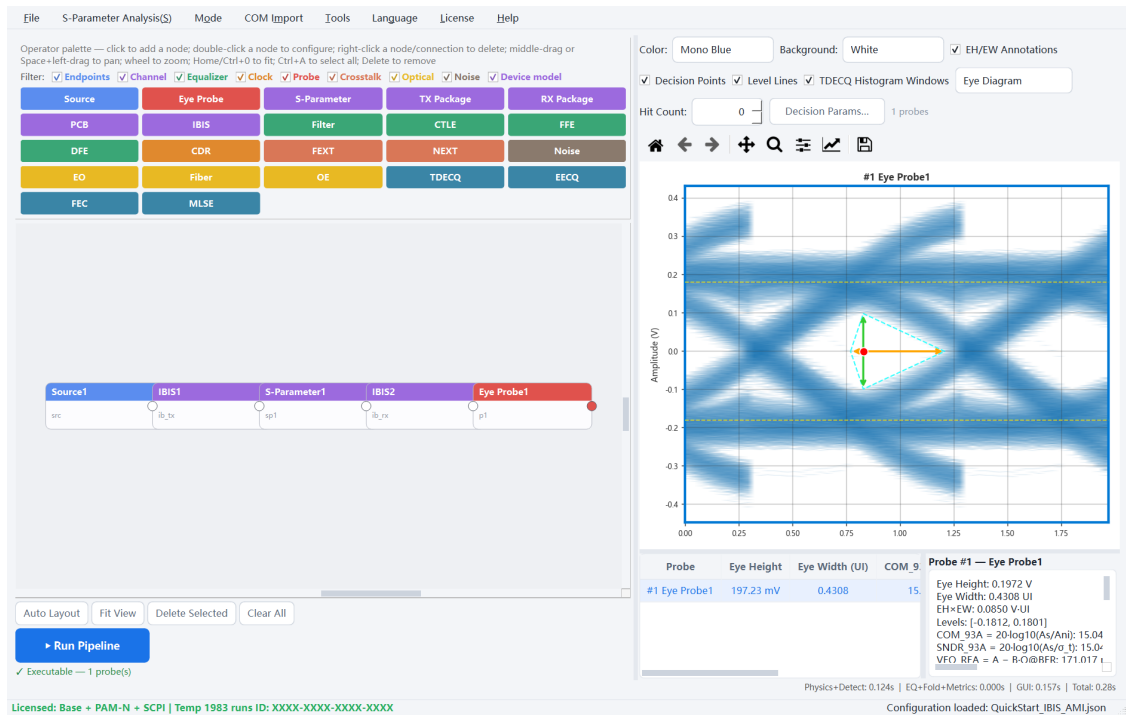

Fig. 8-4 IBIS-AMI device models: TX / RX nodes around the channel, the AMI receiver brings its own equalisation and CDR
Step 5 For **IBIS-AMI device models**, load `demo\configs\QuickStart_IBIS_AMI.json` and click Run Pipeline. The chain is **Source** → **IBIS TX** → **S-parameter** → **IBIS RX** → **Probe**: NRZ / 53.125 GBd / PRBS13 / 32 samples/UI; TX pin A1, RX pin B1, both using GetWave. The configuration locates `demo\ibis\rea_ref.ibs` and its AMI / DLL files, plus `lossy_channel_10dB.s4p` (Fig. 8-4). These are synthetic reference models authored by REA, not real silicon. Double-click an IBIS node to inspect its pin, model, package and C_comp summary (Fig. 8-5). Vendor models and advanced IBIS 8.0 features are covered in Manual 11.6.